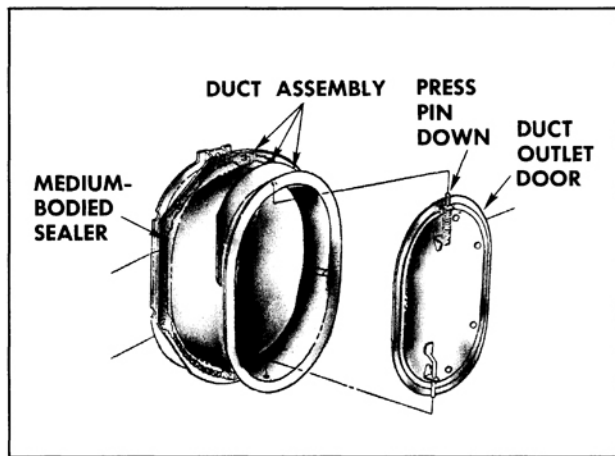

Fig. 16-314 Sealing Duct Assembly
3. Remove screws securing outlet assembly to shroud side panel (Fig. 16-314) and remove assembly.
4. Depress upper door pin to disengage pin and remove door. (Fig. 16-314)